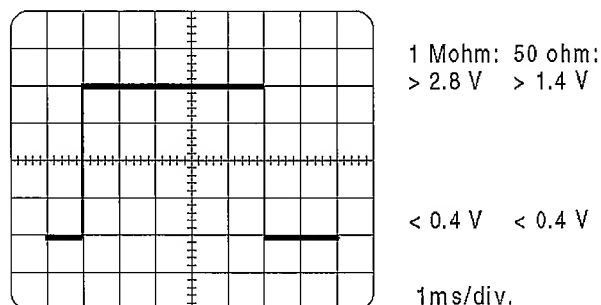

Figure 2-2 Signal on gate open output
- The Gate Monitor output should be a pulse similar to the Figure 2-2 .